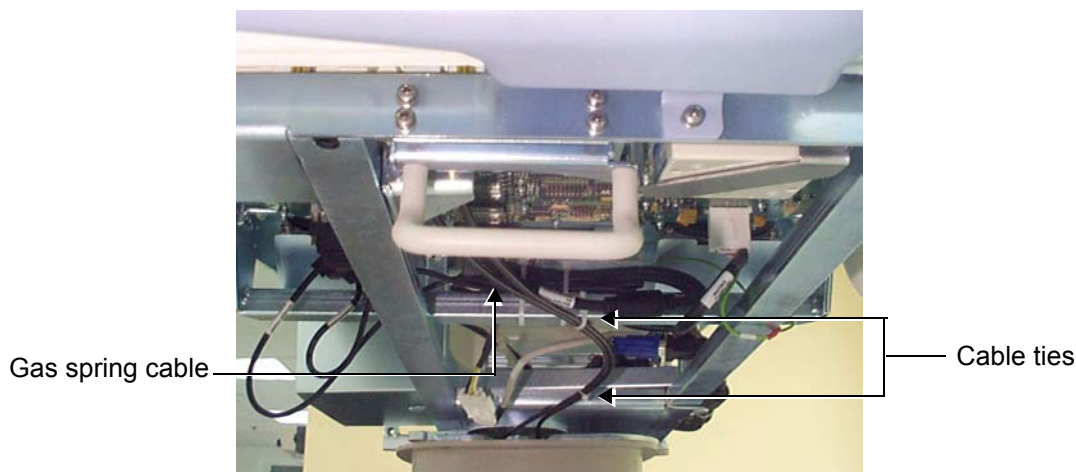

Figure 8-75 Cables Fastened with Cable Ties
- 10) Fasten the cables to the machine with cable ties (at the original positions - see Figure 8-75 below).